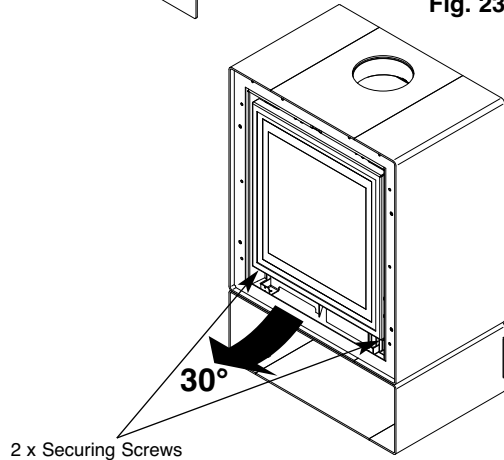

Fig. 24
2. Remove the two screws at the bottom of the glass door panel (Fig. 24).
3. Hinge the door upwards by approximately 30° (Fig. 24).